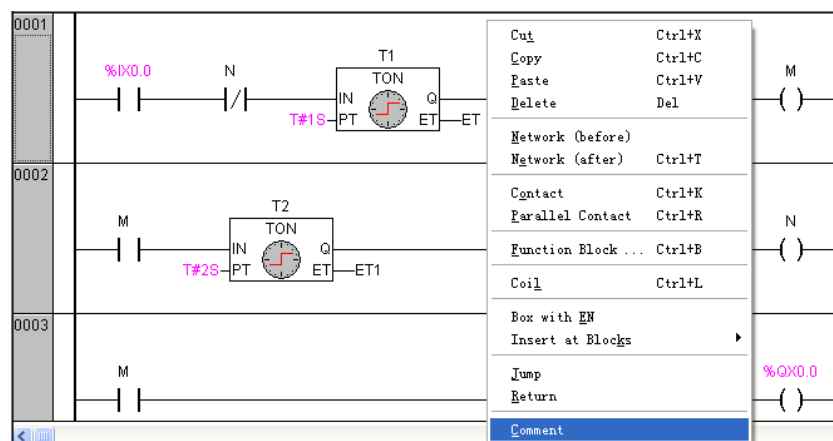

Figure 3-6-14 Programming Step (14)
- Comment may be added for a better understanding of the POUs. For example, right click on network 0001, and then select “Comment”, as shown in figure 3-6-14.